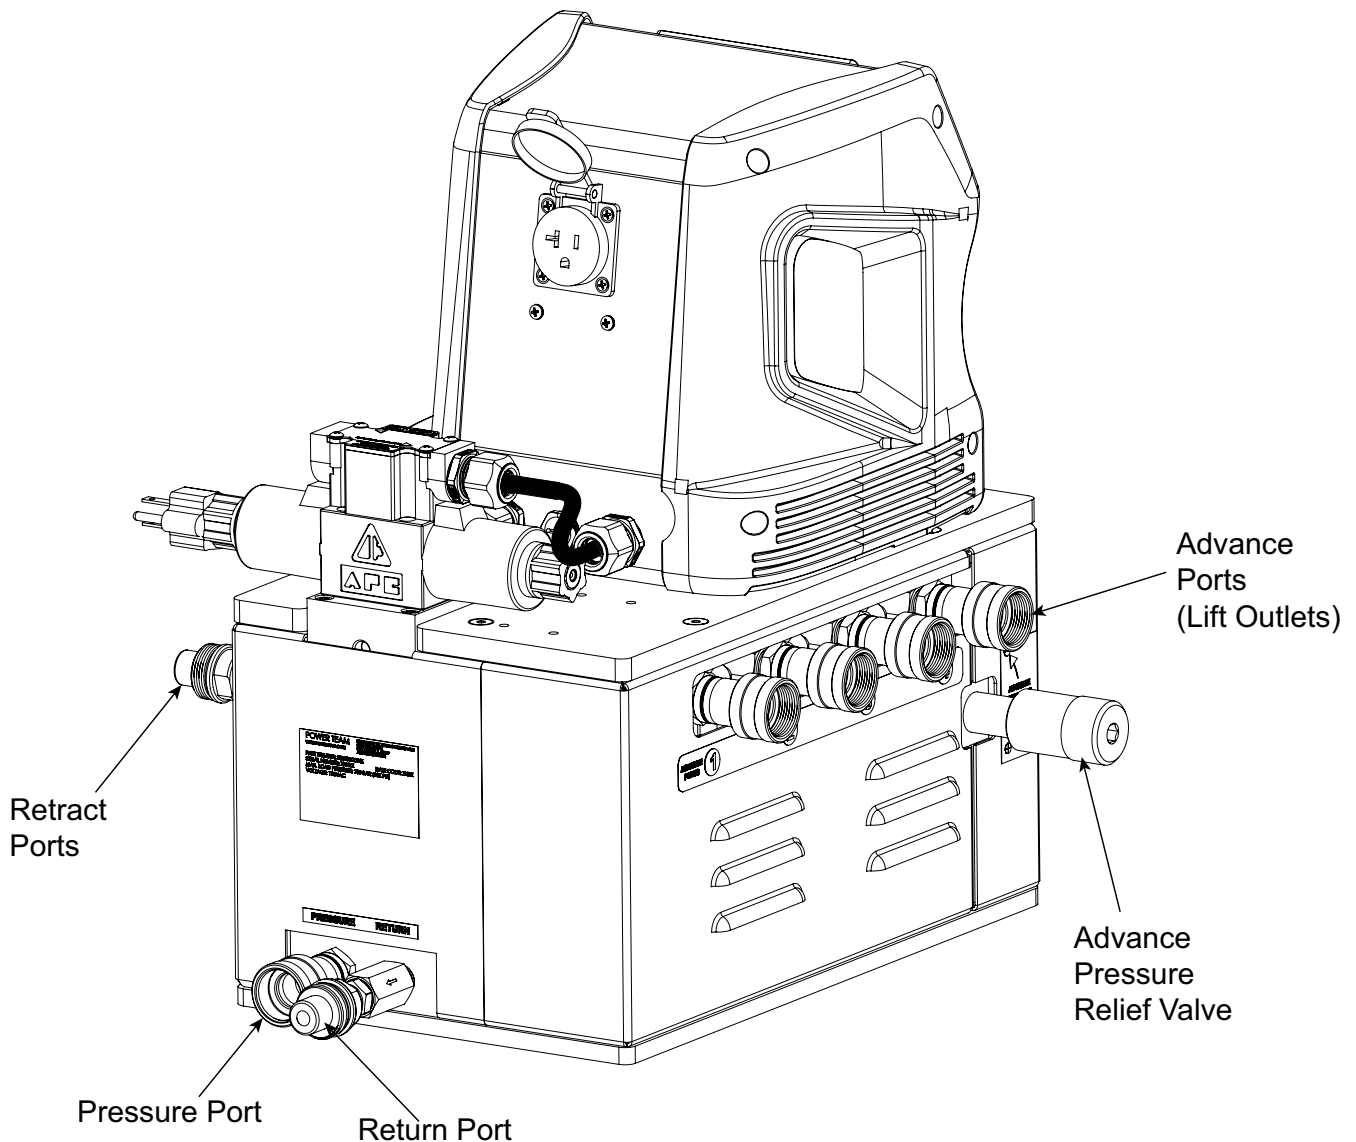

Fig. 6: eSync Unit Hydraulic Connections
- C. Hose connection between eSync and pump unit: Identify the inlet (return) and outlet (pressure) ports on the hydraulic pump. Connect one end of the hydraulic hose to the outlet port of the pump and the other end to the pressure port of the eSync unit (shown in figure 6), ensuring a tight and secure fit. Repeat this step for the inlet port of the pump to connect to the return port.